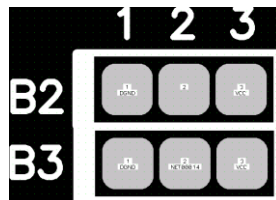

Fig. 2-4 Charger control, solder blobs, located near the left side of the PC/104 bus connector
- Fig. 2-4 Charger control, solder blobs, located near the left side of the PC/104 bus connector
The solder blobs shown in Figure 2-4 below let you configure the operation of the battery charger unit and the charge algorithm. Do not make changes to these settings without examining the detailed description on the operation of the battery charger described later in this manual in Chapter 4, hardware description.